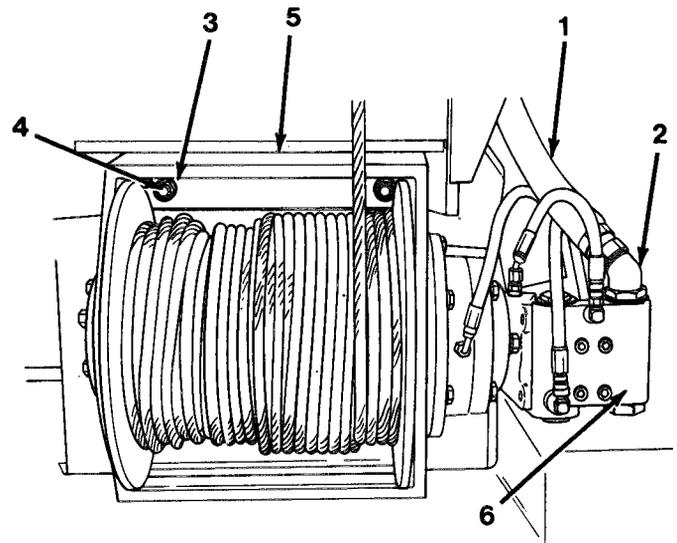

Figure 16-1
3. Disconnect two hydraulic hoses (1) and remove two elbows (2) from brake valve assembly (6, Figure 16-1).
4. Remove four lock nuts (3) and capscrews and washers (4) from winch base (5).